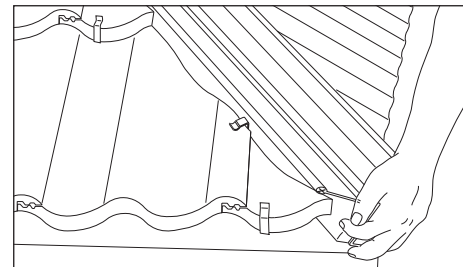

Fig. 7 – Locate Hip Batten Section between cut tiles
- 8 Locate batten section assembly into gap between cut tiles up length of hip. Two or more lengths may be joined together up hip, ensuring that closed cell foam rubber strip from each section abuts tightly to prevent water ingress (Fig. 7).